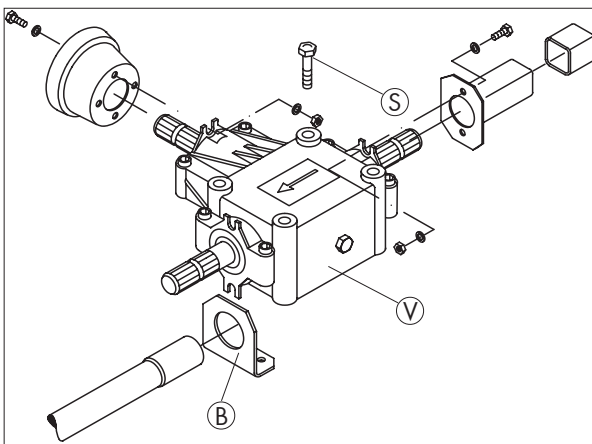

Fig. 3-22
Fasten transfer gearbox (V) under the longitudinal support using four screws (S). The retainer for protecting tube (B) must also be screwed to the front part of the gearbox (fig. 3-22). The shaft end on the rear transfer gearbox is covered. Use the content of bag S.